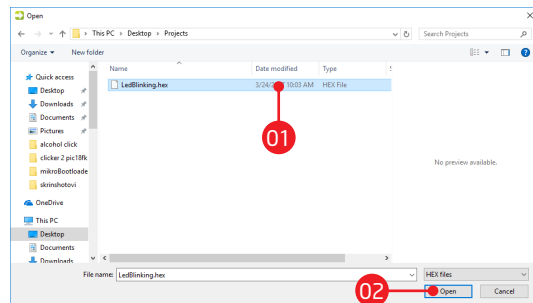

Figure 3-4: Selecting HEX
- 01** Click the Browse for HEX button and from a pop-up window [Figure 3-4] choose the .HEX file which will be uploaded to MCU memory.